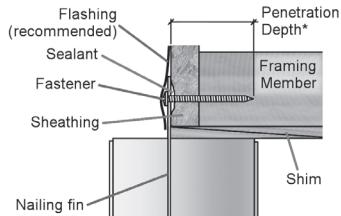

Figure 3 - General Installation
- (Required)** Apply a generous (at least 3/8" bead), continuous bead of exterior-grade sealant to ensure an adequate seal between the back of the nailing fin and the exterior surface of the rough opening (reference **Figure 3**). The bead should run along the approximate location of the nailfin holes (if the nailing fin has two rows of holes, apply sealant in line with the inner row). **⚠ If using pan flashing, do not seal the lower sill nailing fin so as to provide adequate drainage.**